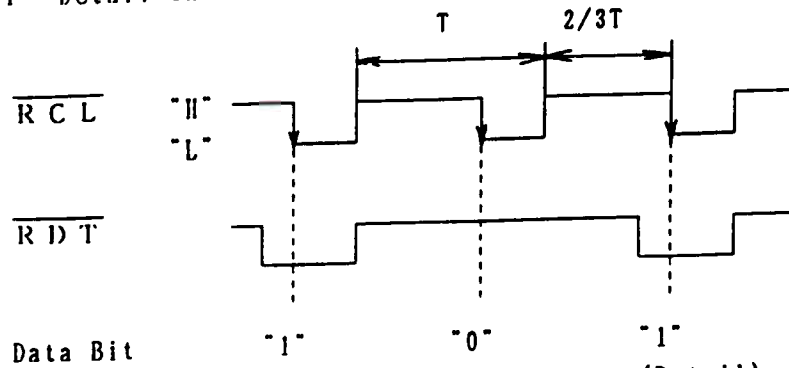

Fig 10.2 Timing Sequence (Detail)
- (1) \overline{CLD} (CARD LOAD) : The \overline{CLD} line will be Low when a Magnetic Card is running in the Magnetic Card Reader. The \overline{CLD} line will be High when the card is stopped or not present in the card reader.
- (2) \overline{RCL} (READ CLOCK) : This is used to sample the data line by its falling edges. The time relationship of the clock with respect to the other signals is shown in Figure 10.2.
- (3) \overline{RDT} (READ DATA) : At the moment \overline{RCL} change from High to Low; \overline{RDT} is "1" when the \overline{RDT} line is Low, and \overline{RDT} is "0" when the \overline{RDT} line is High.
- (4) SGND : Signal GND
- (5) FGND : Frame GND